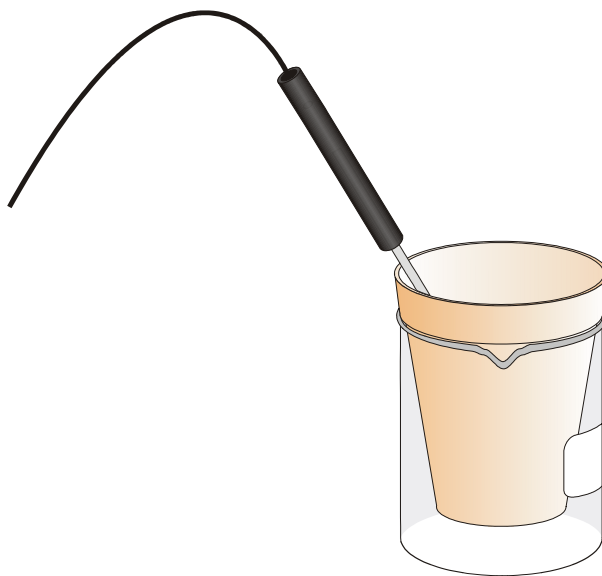

Figure 1
3. Place a Styrofoam cup into a 250-mL beaker as shown in Figure 1. Measure out 30 mL of citric acid solution into the Styrofoam cup. Place the Temperature Probe into the citric acid solution.